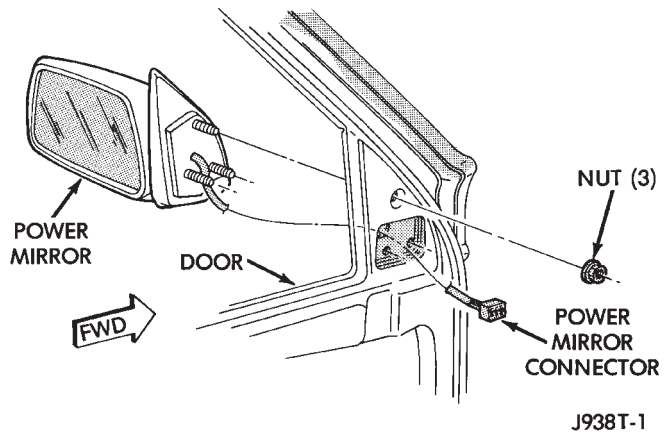

Fig. 15 Power Mirror Removal/Installation
- (7) Unplug mirror wiring from door harness at connector (Fig. 15).
- (8) Remove 3 nuts holding mirror and remove mirror.
- (9) To install the mirror, reverse the removal procedures.